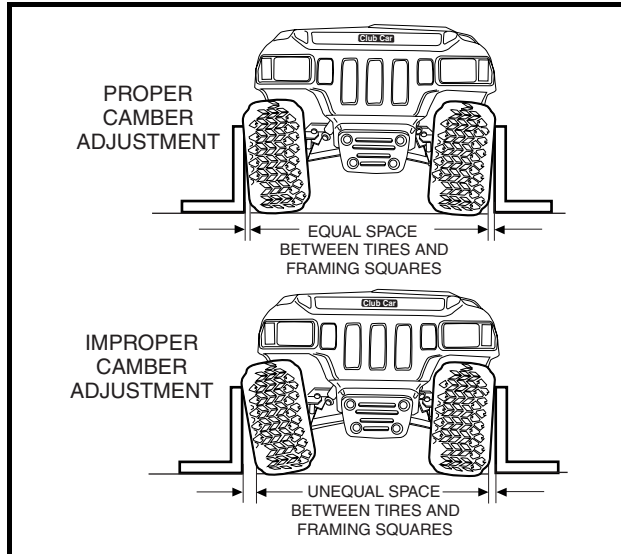
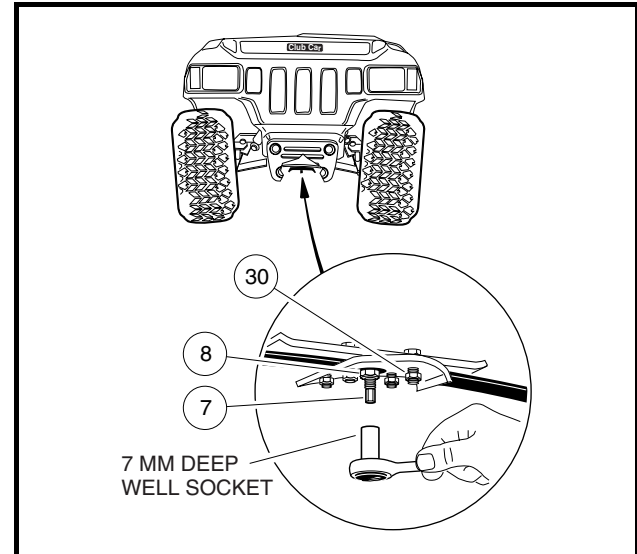
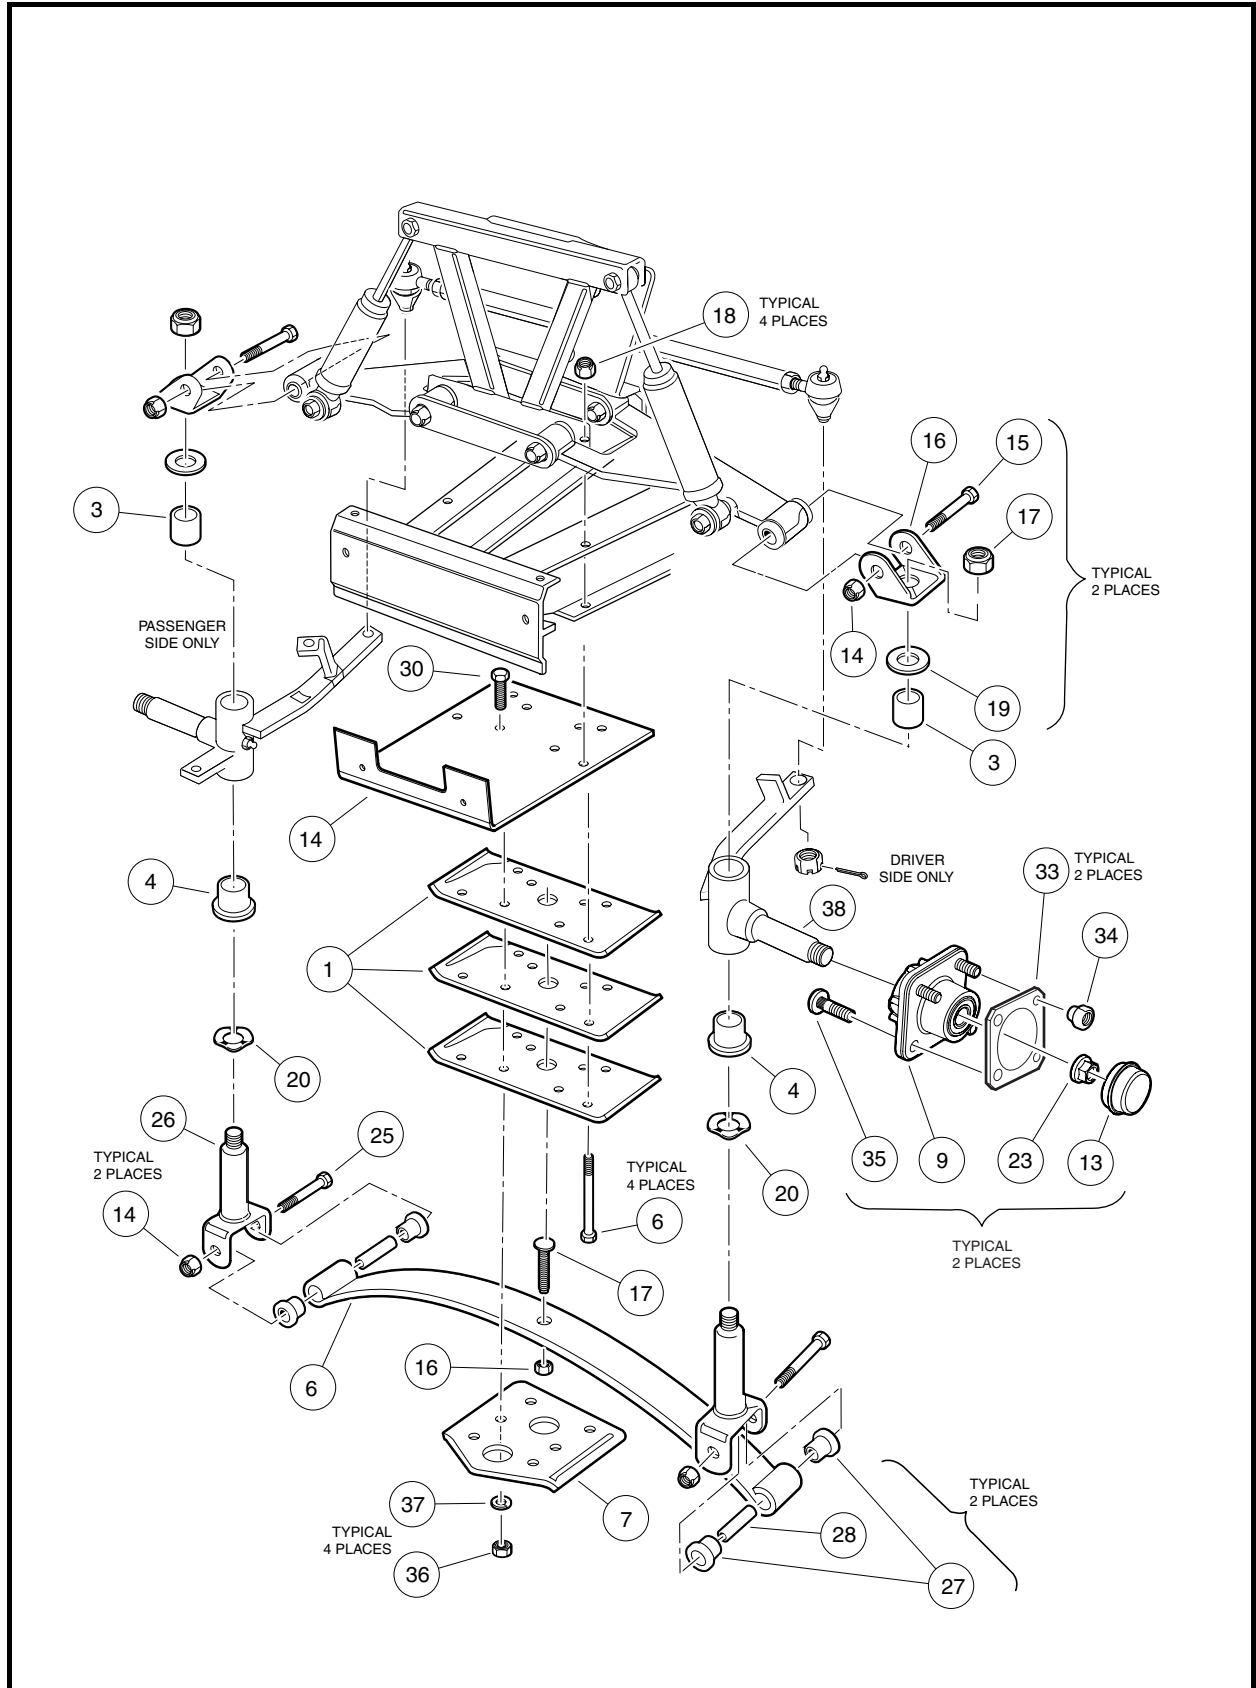

Figure 7-15 Check Camber
Figure 7-16 Adjust Camber
Figure 7-20 Lower Front Suspension Assembly
3. Remove the cotter pins (22) and ball joint retaining nuts (20) (**Figure 7-20, Page 7-18**).
1. Check each front wheel with a framing square. From the floor (or ground), they should be perpendicular with a framing square (**Figure 7-15, Page 7-14**).
2. Loosen, but do not remove, the four bolts (30) that secure the leaf spring (6) to the bottom spring plate (29) (**Figure 7-20, Page 7-18**). **See also Figure 7-16, Page 7-14.**
3. Loosen, but do not remove, the hex nut (8) on the adjustment eccentric (7) (**Figure 7-16, Page 7-14**) in the center of the spring. **See also Figure 7-20, Page 7-18.**
4. Use a 7mm deep-well socket to rotate the eccentric (**Figure 7-16, Page 7-14**).
5. After adjusting camber, tighten the four spring retaining bolts (30) (**Figure 7-20, Page 7-18**) to 23 ft-lb (31 N·m). Then roll the vehicle forward one full tire revolution and recheck the camber. **See also Figure 7-15, Page 7-14.**
6. Tighten the hex nut (8) on the adjustment eccentric (7) to 10 ft-lb (13.5 N·m) (**Figure 7-20, Page 7-18**) **See also Figure 7-16, Page 7-14.**
3. Remove the nuts (14) and bolts (25) from the bottom of each kingpin (26) (**Figure 7-20, Page 7-18**).
4. Remove the four bolts (30), four nuts (36), four lock washers (37), and bottom spring plate (7).
5. Remove tapered leaf spring (6) and three spacer plates (1).
6. Check the condition of the urethane bushings (27) and steel bushings (28). Replace any that are worn or damaged.
1. Install urethane bushings (27) and steel bushings (28) into leaf spring eyes (**Figure 7-20, Page 7-18**).
2. Install spacer plates (1), tapered leaf spring (6), bottom spring plate (7), four bolts (30), four lock washers (37), and four nuts (36). Using a crisscross pattern sequence, tighten bolts to 23 ft-lb (31 N·m).
3. Install spring in kingpins (26) with bolts (25) and nuts (14). Tighten to 23 ft-lb (31 N·m).
3. Remove the nut (17) and lock washer (if present) from the top of the kingpin (26) (**Figure 7-20, Page 7-18**).
4. Raise the upper clevis (16) from the kingpin (**Figure 7-20, Page 7-18**).
5. Remove the thrust washer (19).
6. Slide the spindle (38) off the kingpin (26).
7. Remove the wave washer (20) and inspect it. If the washer is broken or has a wave bottom to wave crest height dimension of less than 0.040 inch (0.10 cm), it must be replaced.
8. Remove bolt (25) and nut (14) from bottom of kingpin (26) and remove kingpin.
2. Install the kingpin (26) over the leaf spring eye. Insert the bolt (25) and install the nut (14) (**Figure 7-20, Page 7-18**). Tighten the bolt to 23 ft-lb (31 N·m).
3. Install the wave washer (20) on the kingpin.
4. Slide the spindle (38) with bushings (3 and 4) over the kingpin (26).
5. Install the thrust washer (19), upper plate clevis (16), and nut (17). If lock washer was present, do not reinstall. Tighten the nut to 40 ft-lb (54.2 N·m) (**Figure 7-20, Page 7-18**).